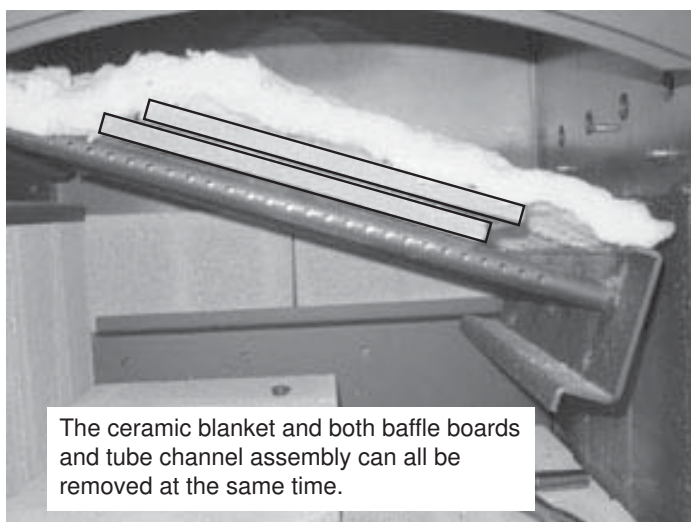

Figure 23.2
4. Slide the tube channel assembly to the left as far as it will go and lower the right side. Remove the baffle boards and ceramic blanket together. **Figure 23.2**.